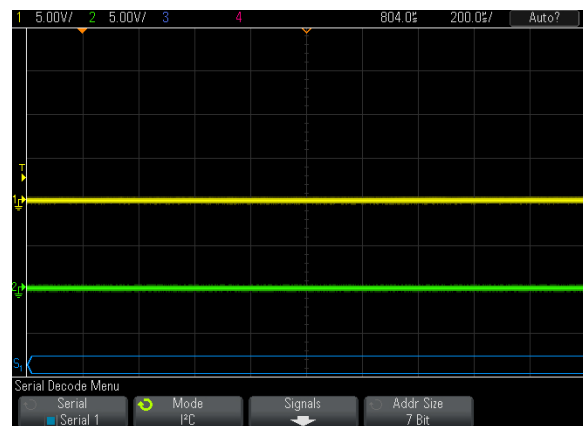

Figure 4: Keysight serial mode set for I²C
8. The label for the second softkey from the left shows the current protocol selection for the bus. If it doesn't say “I²C”, press the softkey below the label to bring up a vertical menu for selecting the protocol type. Using the knob with the illuminated green arrow just to the right of the screen, select the “I²C” setting for Serial 1 as shown in Fig. 4.